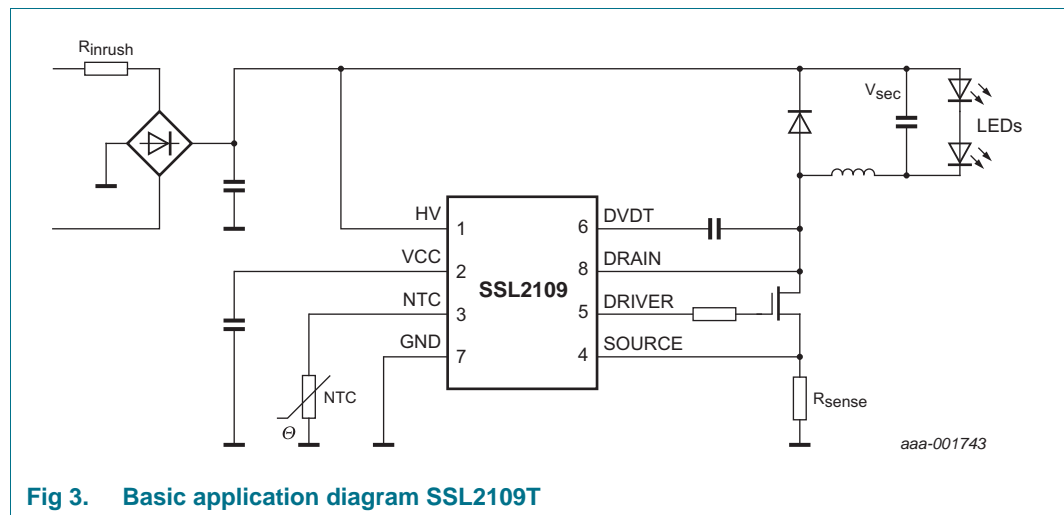
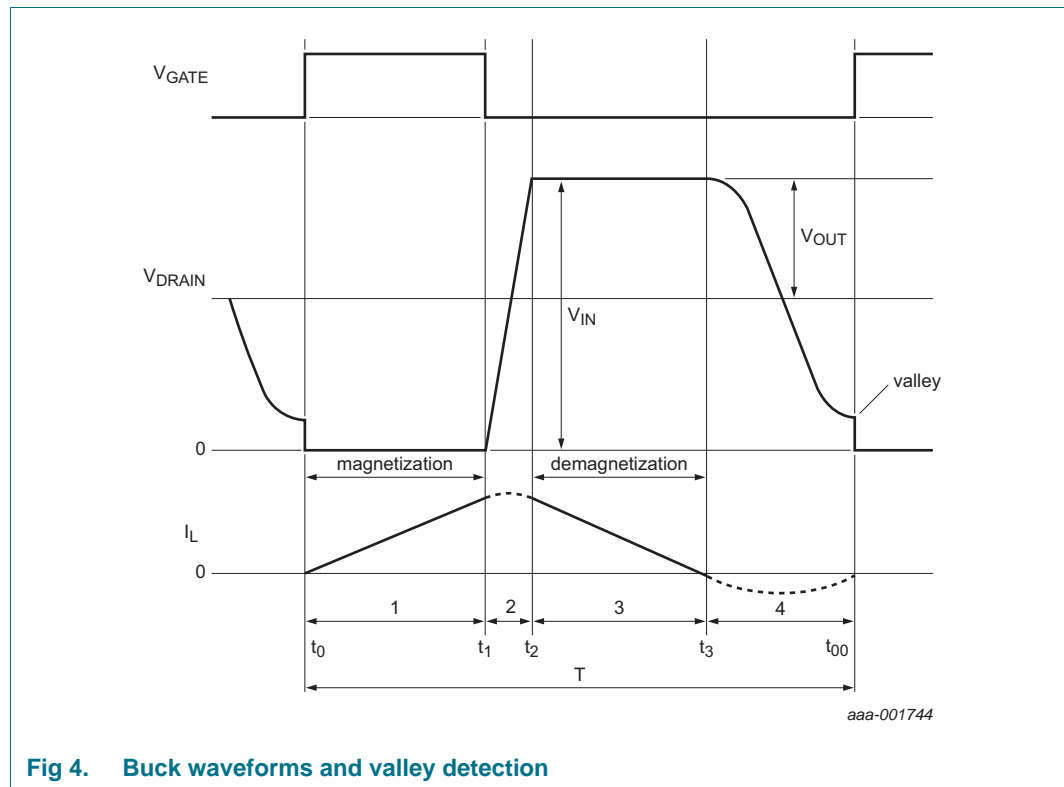

Fig 3. Basic application diagram SSL2109T
Fig 4. Buck waveforms and valley detection
- Low component count (see Figure 3) LED driver solution:
The converter in the SSL2109T is a Boundary Conduction Mode (BCM), peak current controlled system. For the basic application diagram see Figure 3, for the waveforms see Figure 4. This converter type operates at the boundary between continuous and discontinuous mode. Energy is stored in inductor L each period that the switch is on. The inductor current I_L is zero when the MOSFET is switched on. Thereafter, the amplitude of the current build-up in L is proportional to $V_{IN} - V_{OUT}$ and the time that the MOSFET switch is on. When the MOSFET switch is switched off, the current continues to flow through the freewheel diode and the output capacitor. The current then falls at a rate proportional to the value of V_{OUT} . The LED current I_{LED} is almost equal to half the peak switch current. A new cycle is started, as soon as the inductor current I_L is zero.
A new cycle is started when the primary switch is switched on (see Figure 4). In the following sections on represents the conductive state and off the non-conductive state.